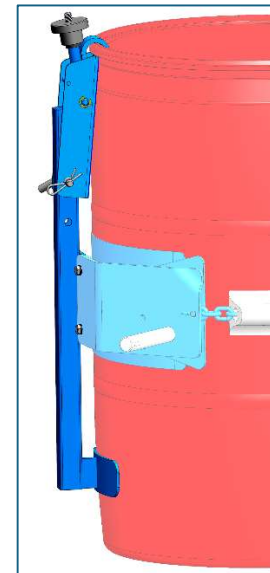

Figure 2.2
**Top Rim Clamp Kit 4560B-P** to handle a RIMMED plastic drum (figure 2.2). Install the Top Rim Clamp Kit to handle a RIMMED plastic, steel or fiber drum with suitable top rim.